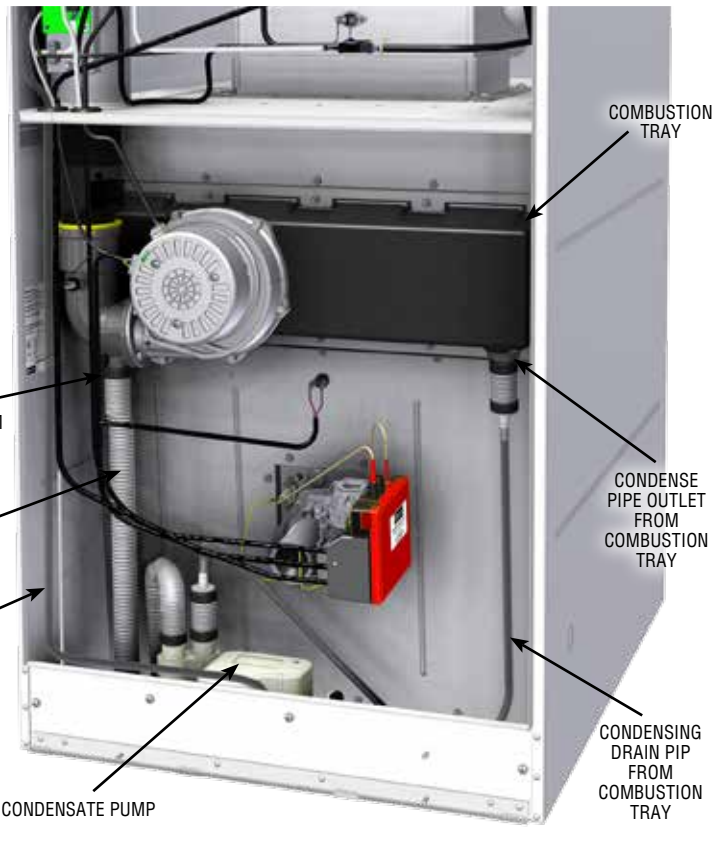

FIGURE 25. CONDENSE PIPEWORK LAYOUT
- 16.9.1 Refer to section 16.3. See Figure 25.
- 16.10.1 Refer to section 16.3. See Figure 25.